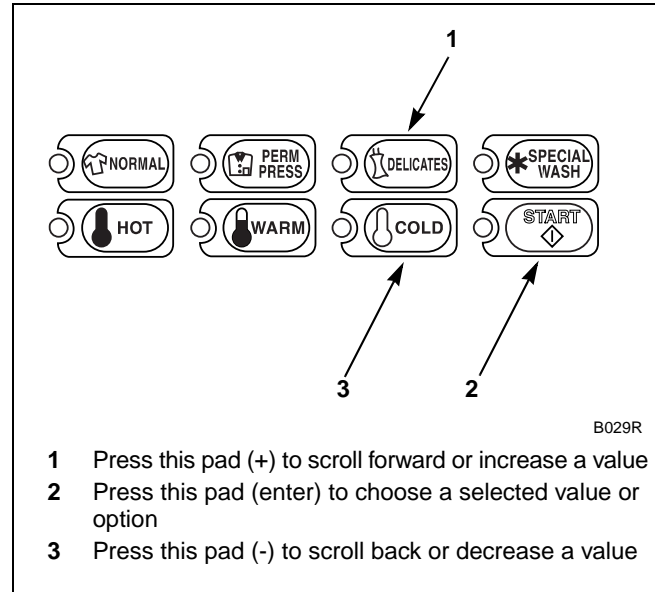

Figure 113
5. Press the DELICATES (+) or the COLD (-) keypad to increase or decrease the day until correct. Refer to *Figure 113*.
**NOTE: Sunday is considered day one (001), Monday is day two (002) and so on.**